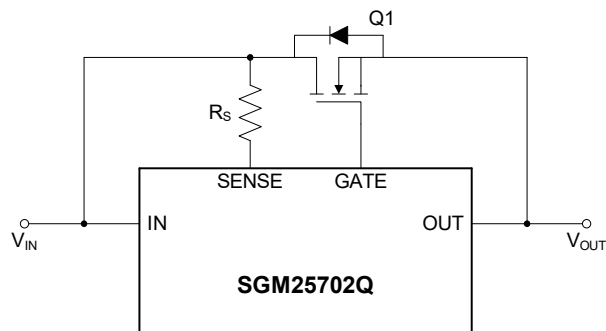

Figure 8. Setting the  $V_{DS}$  Threshold
- ♦  $R_{DS(on)}$  is the resistive drop of the pass element Q1 in Figure 8
As described in the section Over-Current Protection and Figure 8, the appropriate SENSE pin resistor  $R_S$  can be selected based on the desired over-current threshold and  $R_{DS(on)}$  of the external N-MOSFET.